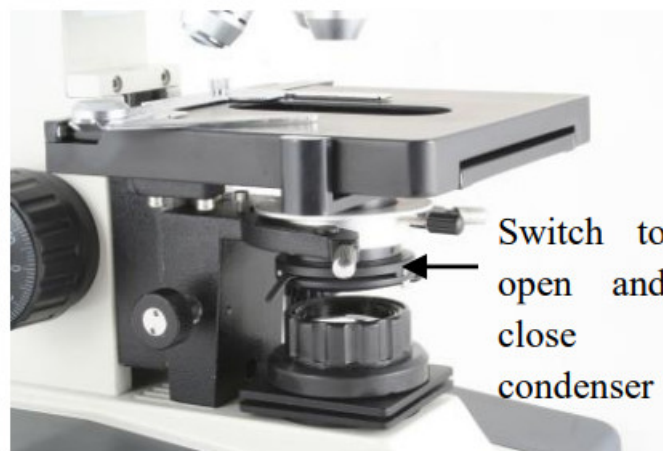

Fig.8
using. Adjust the upper diaphragm ring until you see the image like above (See fig.7). Use of diaphragm and put the N.A. of condenser ② to 80% of the objective. e.g.: objective 40X (N.A. =0.65), put the aperture diaphragm to about $0.65 \times 0.8 = 0.52$. (See fig.8)